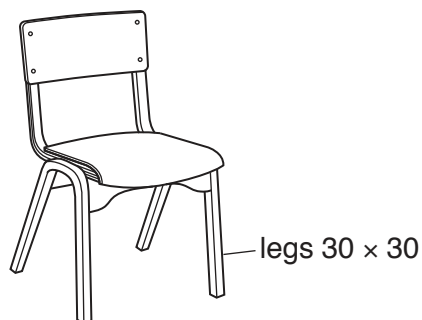

Fig. 5
- 10 Fig. 5 shows a wooden chair.